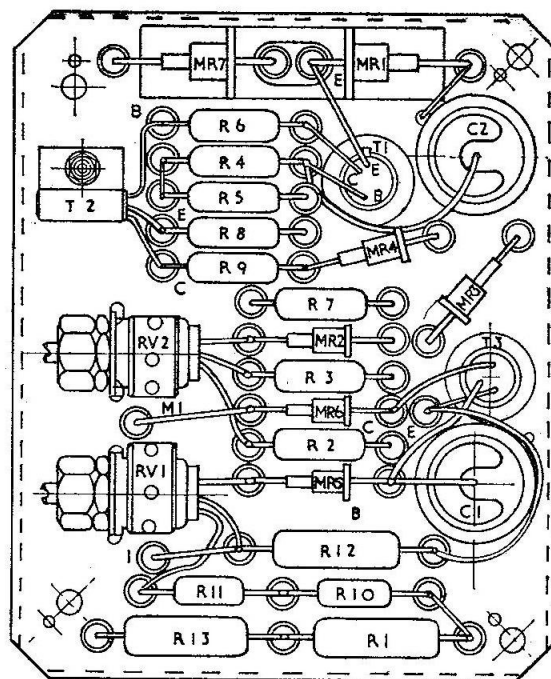

Fig. 2. View with base cover removed
3. The arrangement of the components is shown in fig. 2. The two potentiometers, which are adjusted to control the operating voltage level of the discriminating and switching circuits, can be reached by removing the base cover plate. The components are mounted in a pressed metal case with the nine-way terminal block fitted to one side. The four fixing holes are drilled through mounting feet which are secured to the base of the unit.